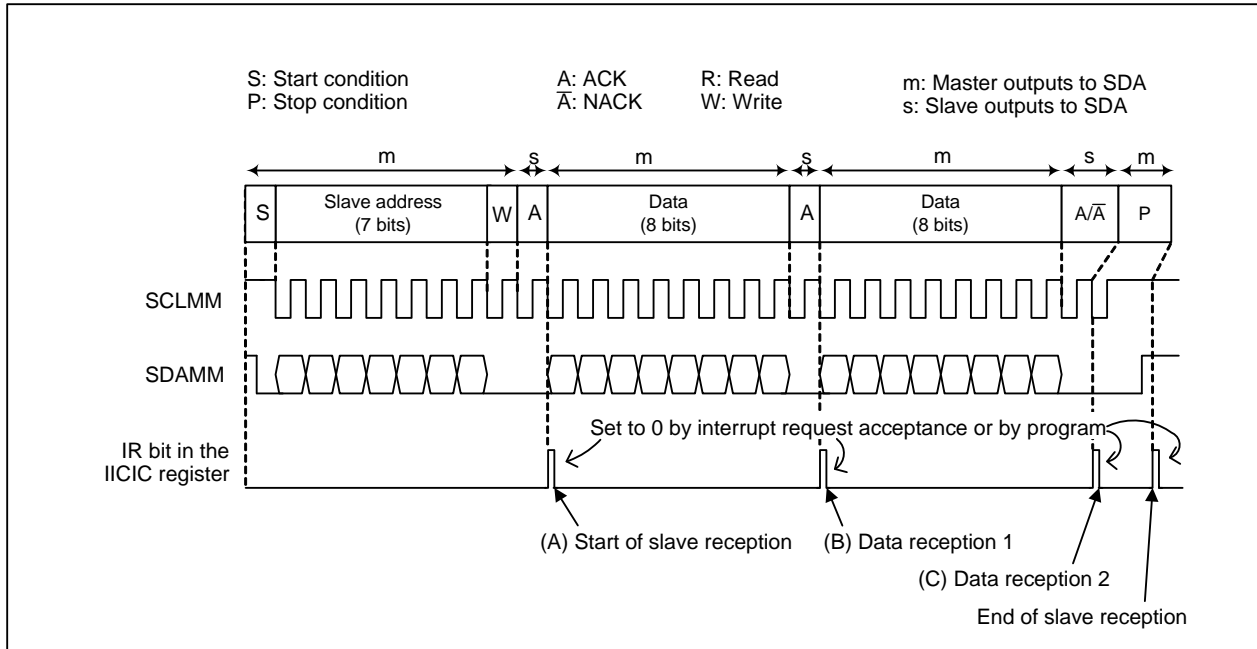

Figure 25.19 Example of Slave Reception
- (1) Read the received data from the S00 register
- (2) Write C0h to the S10 register. (Stop condition standby state)
- (3) Write dummy data to the S00 register (stop condition generated)
The slave reception is described in this section. The initial settings described in 25.3.10.1 "Initial Settings" are assumed to be completed. Figure 25.19 shows the example of slave reception. The following programs (A) to (C) are executed at the (A) to (C) in Figure 25.19, respectively.